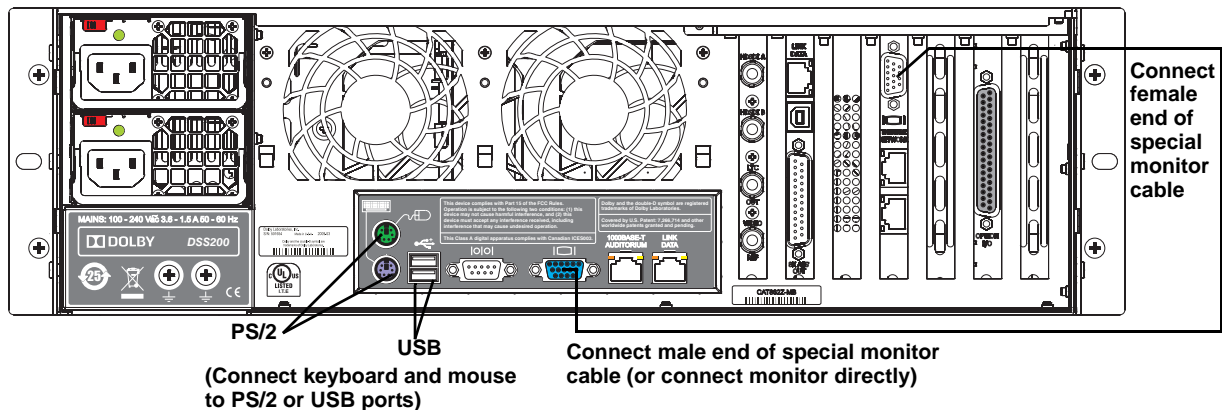
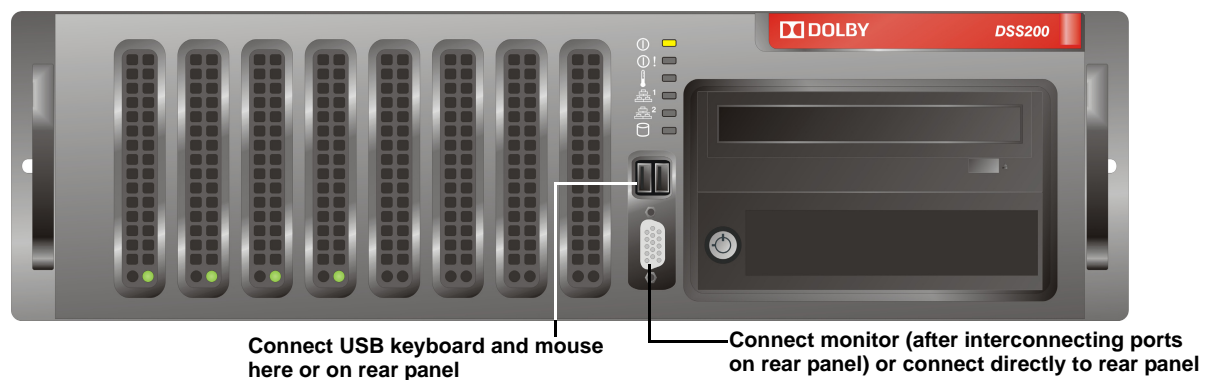

Figure 3-13 Connecting a Monitor, Keyboard, and Mouse to the DSS200
Figure 3-14 Connecting a Monitor, Keyboard, and Mouse to the Front Panel
1. Use the provided special monitor cable to interconnect the two monitor ports on the DSS200 rear panel, connecting the male end of the cable to the lower port on the left and the female end of the cable to the upper port on the right, as shown in Figure 3-13.
2. Connect a USB or PS/2 keyboard and mouse to their respective ports on the DSS200 rear panel, or connect a USB keyboard and mouse to the USB ports on the front panel, as shown in Figure 3-13 and Figure 3-14.
Note: This connection allows you to connect a monitor directly to the monitor port on the DSS200 front panel, as shown in Figure 3-14. Alternatively, you can connect your monitor directly to the lower monitor port on the DSS200 rear panel (not using the special monitor cable or the front-panel monitor port).